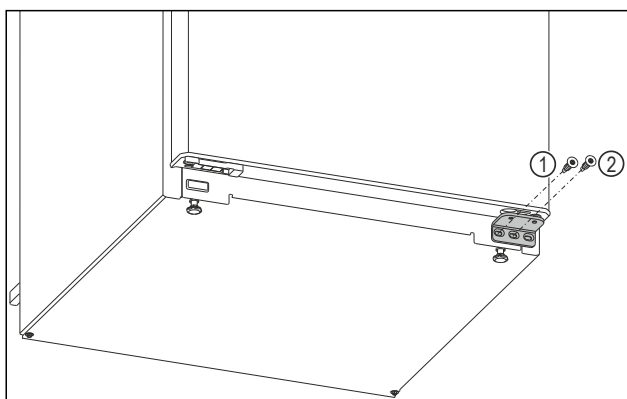

Fig. 6
- ▶ Unscrew the inner screw on the lower swap bearing block with a Torx 20 screwdriver. Fig. 6 (1)
- ▶ Unscrew the middle screw on the lower swap bearing block with a Torx 20 screwdriver. Fig. 6 (2)